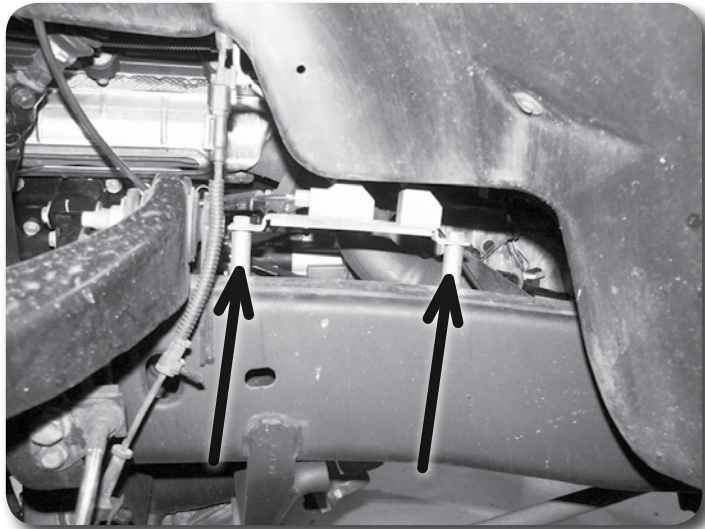

Figure 12
32. Position the two provided 0.625 OD x 1.625 long brake line junction spacers between the junction and the driver's side frame rail **Figure 12**. Fasten the junction block and spacers to the frame with 8mm x 60mm bolts and 5/16" USS washers. Use Loctite on the bolt threads and torque to 15 ft-lbs.